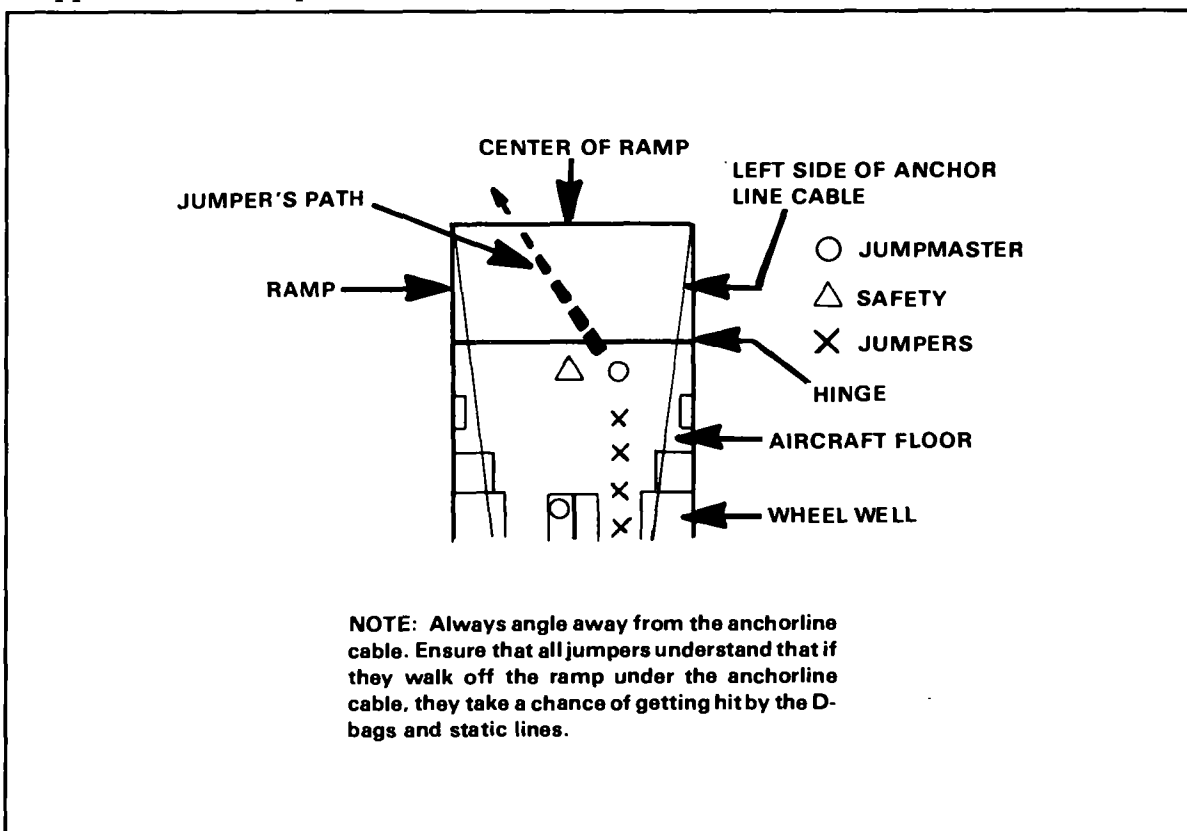

Figure 11-6. Personnel locations.
(4) After giving the command STAND BY, the jumpmaster moves to the edge (center) of the ramp and exits on green light. The safety positions himself immediately behind the hinged portion of the ramp and controls the flow of parachutists.
(5) Each parachutist walks off the ramp at an angle away from the anchor line cable. (See Figure 11-6.)